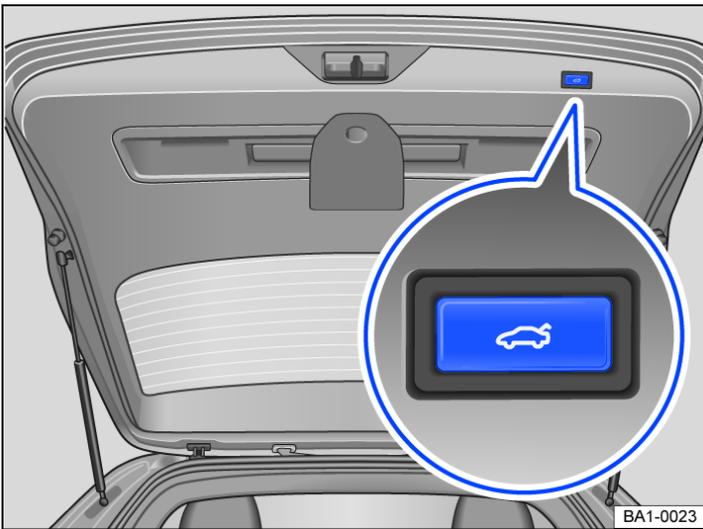

Fig. 2 In the open tailgate: button for closing boot lid electrically.
- Press the button in the open boot lid → Fig. 2.